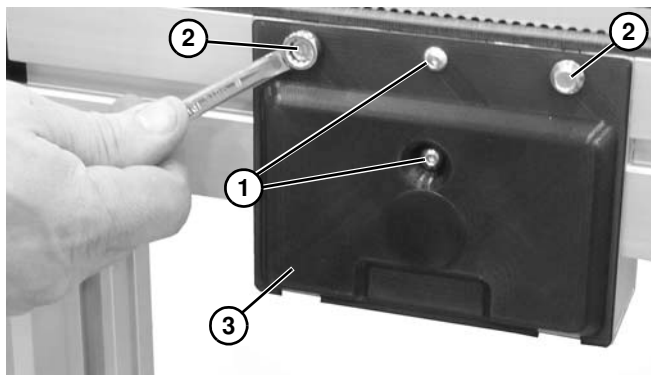

Figure 15
4. Remove button head screws (**Figure 15, item 1**).
5. Loosen hex flange screws (**Figure 15, item 2**) on both sides of conveyor. Remove mid drive cover (**Figure 15, item 3**).